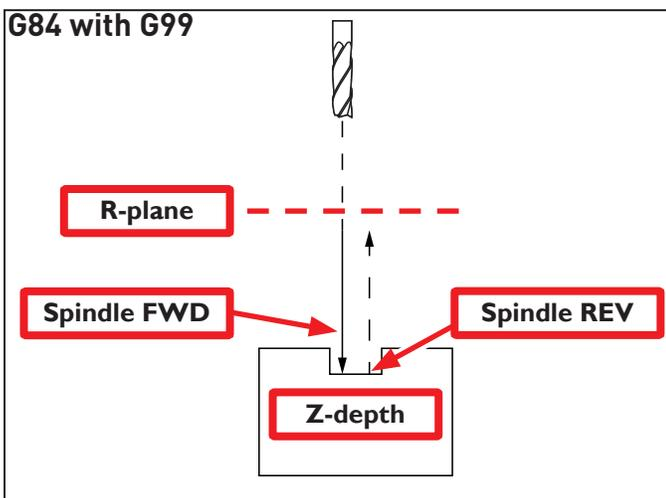
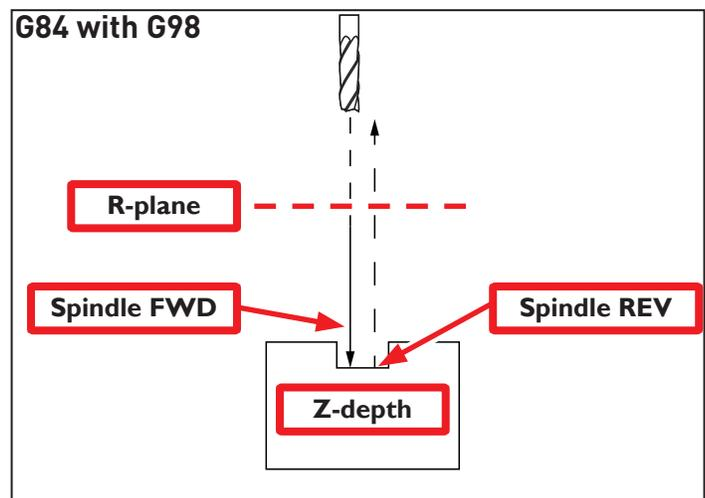

Figure 6.5
Figure 6.6
- After the tapping operation is completed, either a G98 or G99 command controls the return height. G99 returns the tool to the R-plane (see **Figure 6.5**); G98 returns the tool to the initial height (see **Figure 6.6**).